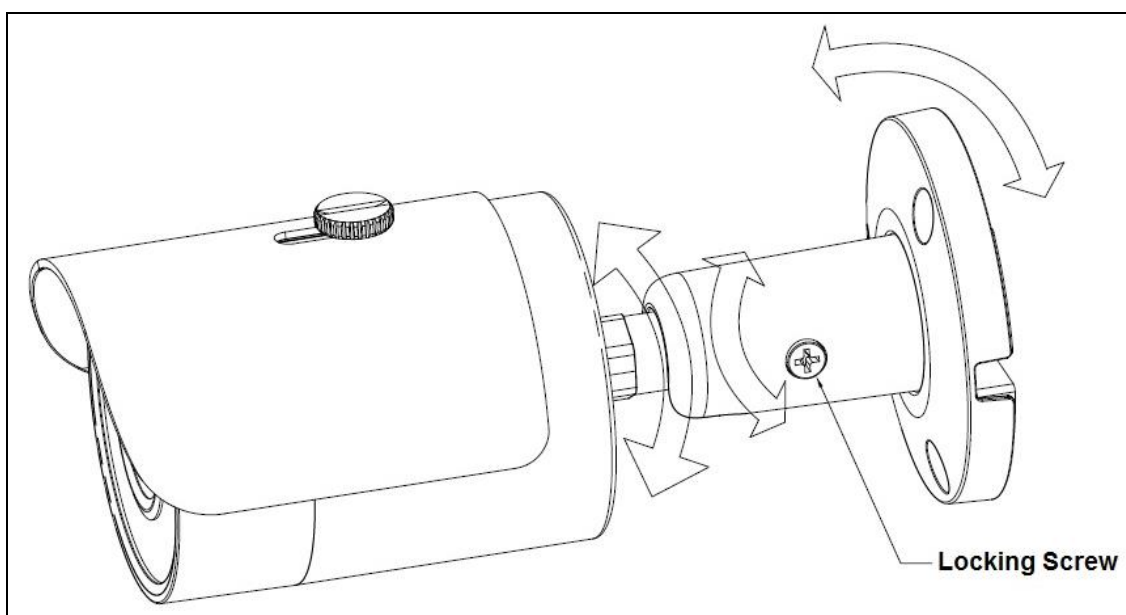

Figure 4-3
10. Adjust the monitoring direction of the camera. Use a screwdriver to loosen the adjusting screw on the base of the camera, then position the camera by tilting, twisting, and rotating the camera as shown in Figure 4-3, below. Use the following camera adjustment limits: